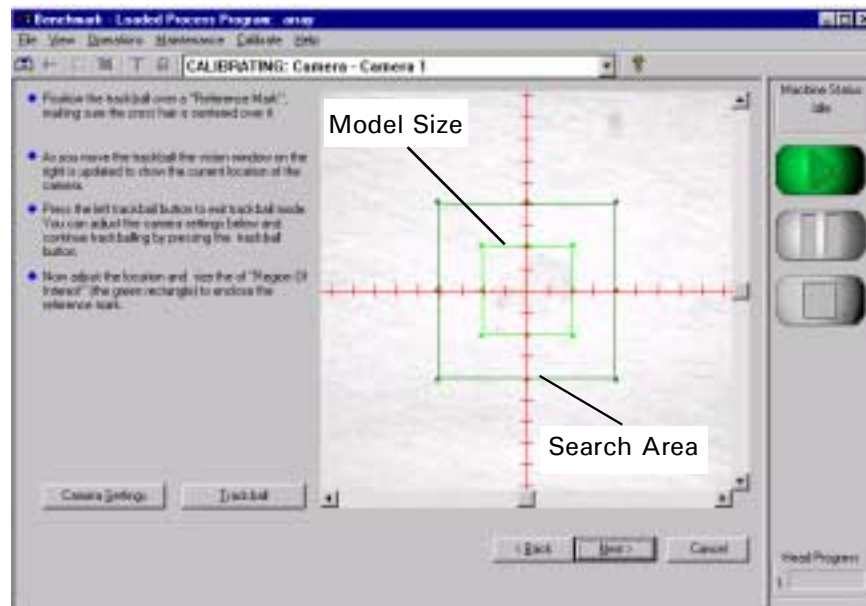

Figure 6-3
See Figure 6-3.
8. If necessary, adjust the **M**odel **S**ize and/or **S**earch **A**reas as follows. See Figure 6-3.